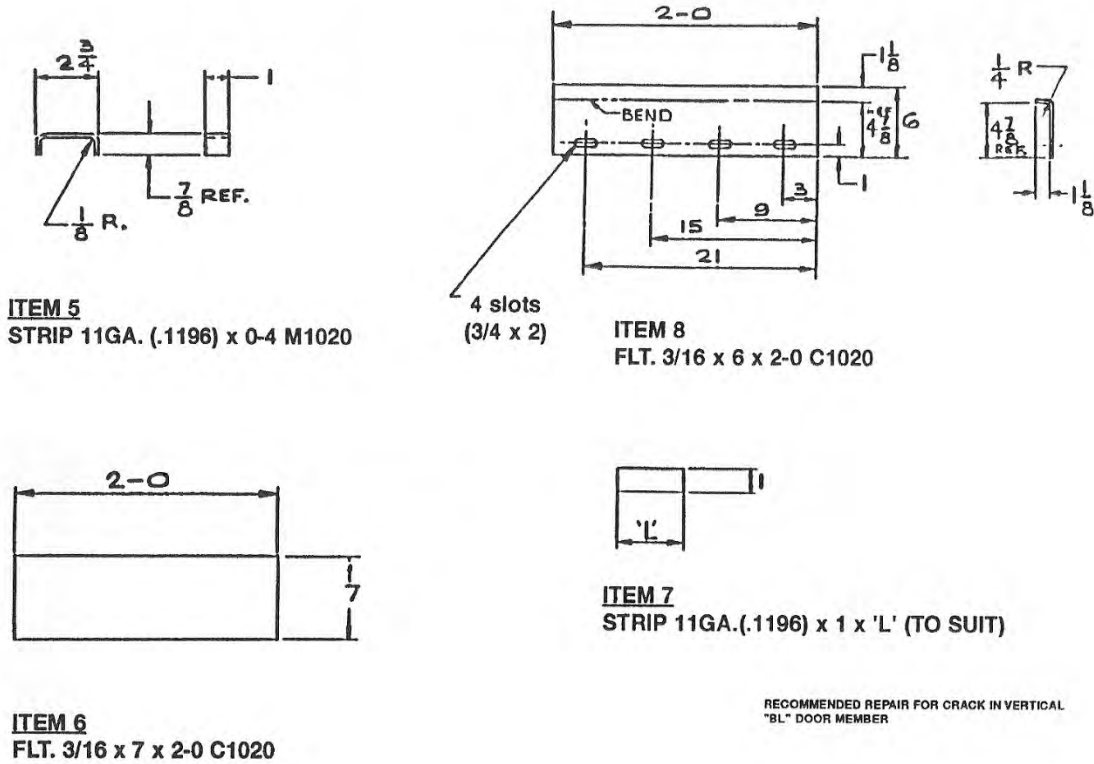

Figure 15
13. Fabricate a ⅜" plate, 24" long and 6" wide, (Figure 15, Item 8). Form this plate into an angle with slots as shown in the drawing.